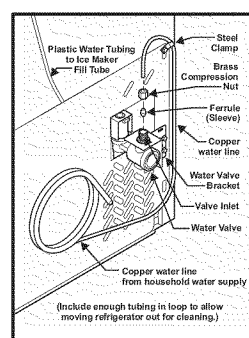
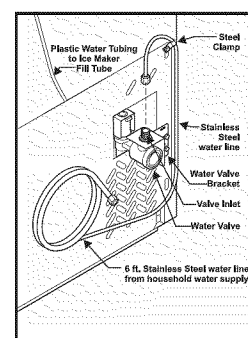

Figure 1
Figure 2
- If you use copper tubing - Slide brass compression nut, then ferrule (sleeve) onto water supply line. Push water supply line into water valve inlet as far as it will go (1/4 inch/6.4 mm). Slide ferrule (sleeve) into valve inlet and finger tighten compression nut onto valve. Tighten another half turn with a wrench; DO NOT overtighten. See Figure 1. If you use stainless steel tubing - The nut and ferrule are already assembled on the tubing. Slide compression nut onto valve inlet and finger tighten compression nut onto valve. Tighten another half turn with a wrench; DO NOT overtighten. See Figure 2.